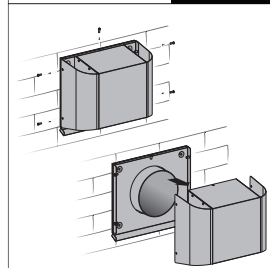

Figure 15
- b) To clean the exterior-mounted hood, disassemble it as shown in Figure 15 and then clean the hood and air duct.